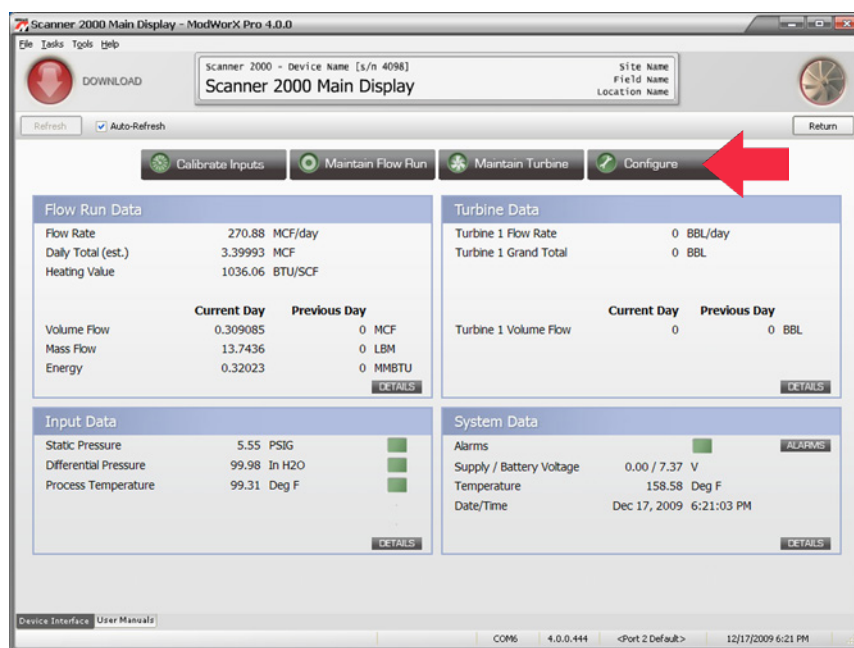

Figure 5.1
1. Click on the **Configure** button in the task menu bar on the Main Display screen (Figure 5.1).